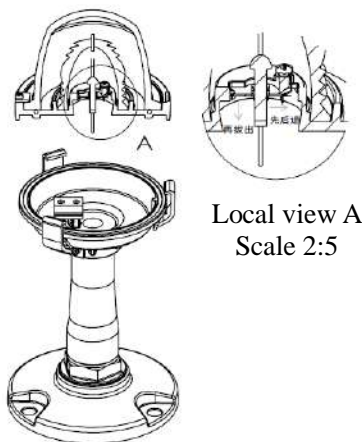

Figure 5-5
- Push the lamp in the arrow direction to make it leave the neck on the other end, overturn it downwards and take it down (see Figure 5-5).